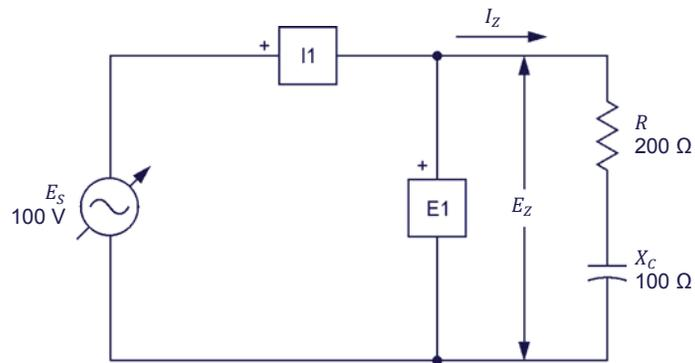

Figure 2-19. Series ac circuit containing a resistor and a capacitor.
**32.** Set up the circuit shown in Figure 2-19.